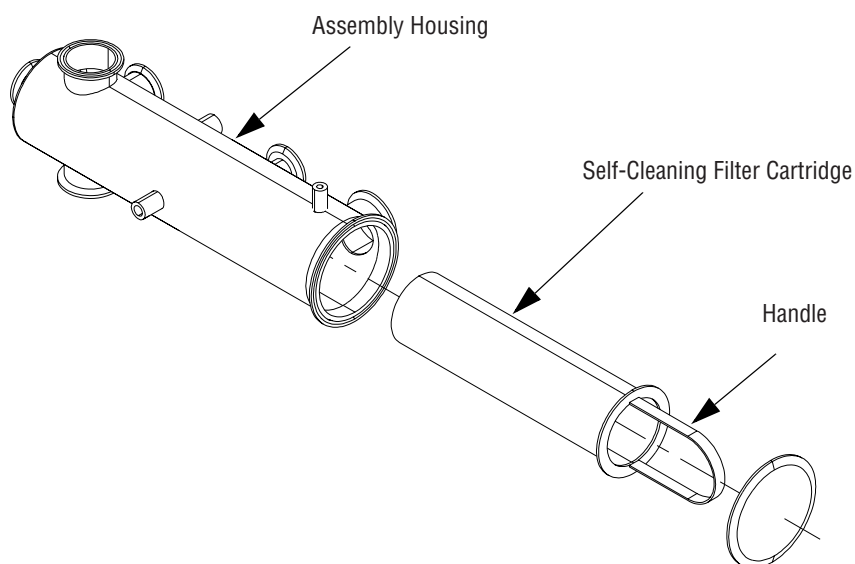

Figure 6-3. Self-Cleaning Filter
2. Remove quick-disconnect clamp directly above pump (see Figure 6-3).